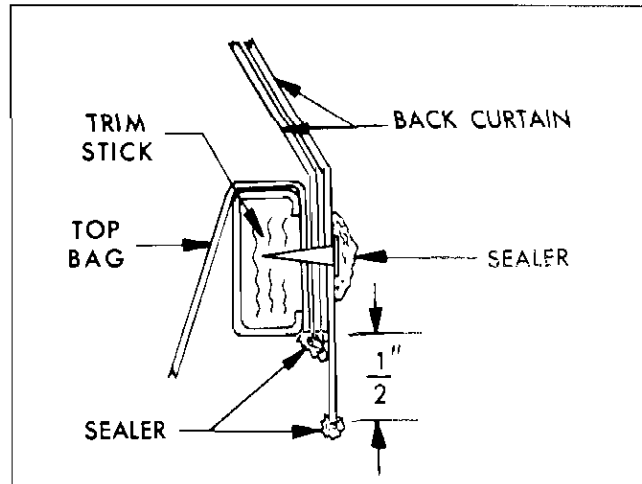

Fig. 7-48 Sealing Trim Stick
40. Remove trim sticks with attached top material from top compartment well. Back curtain and top material should extend $\frac{1}{2}$ " below trim sticks (Fig. 7-48). Trim material as required. Apply convertible top sealer onto all trimmed edges, around each tack head and around each trim stick attaching bolt hole (Fig. 7-48).